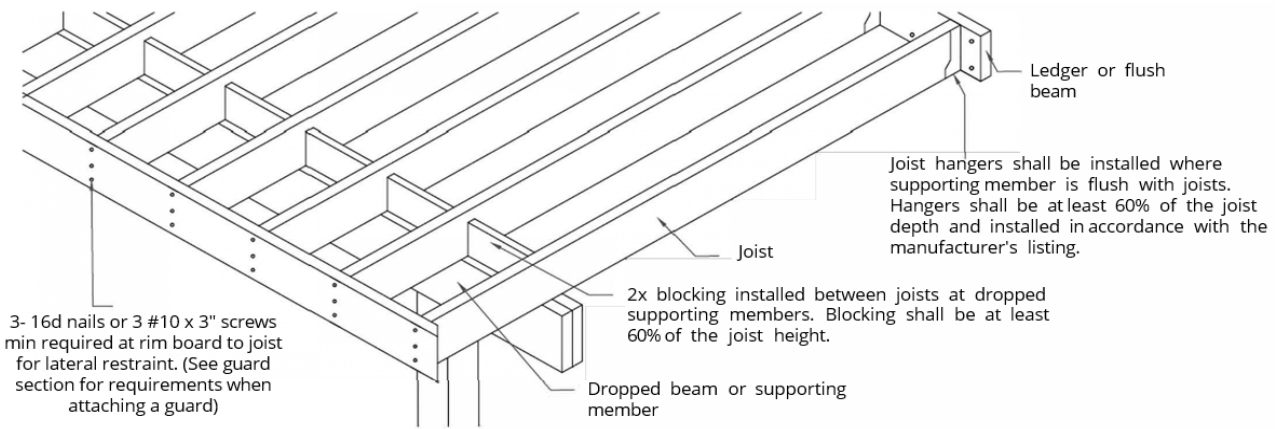

FIGURE 10 - RIM JOIST ATTACHMENT
- A continuous rim joist at the joist ends is required as shown in Figure 10.